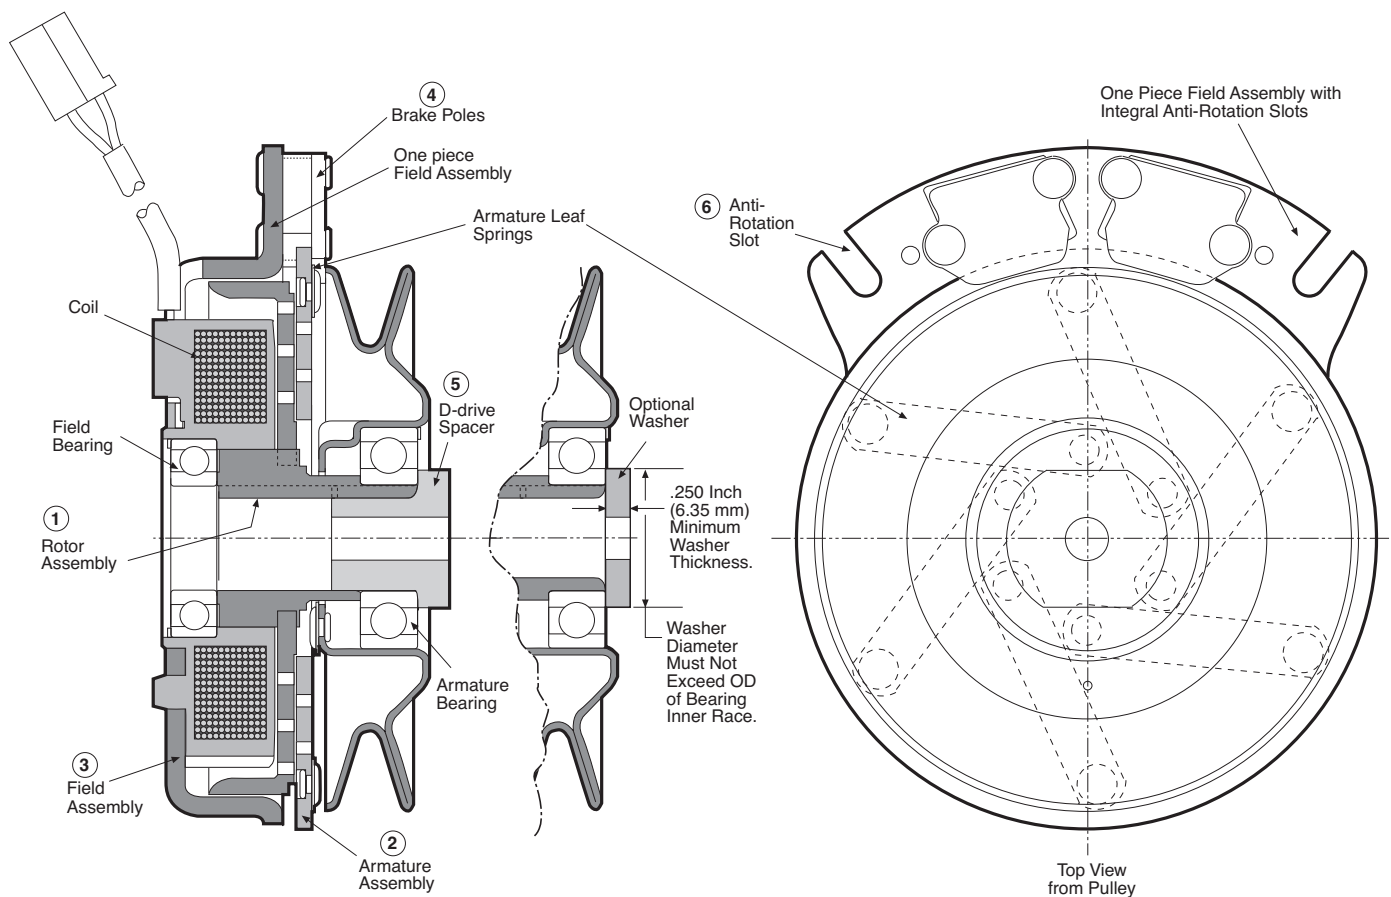

Figure 1
**Components:** (See Figure 1 on page 5.)